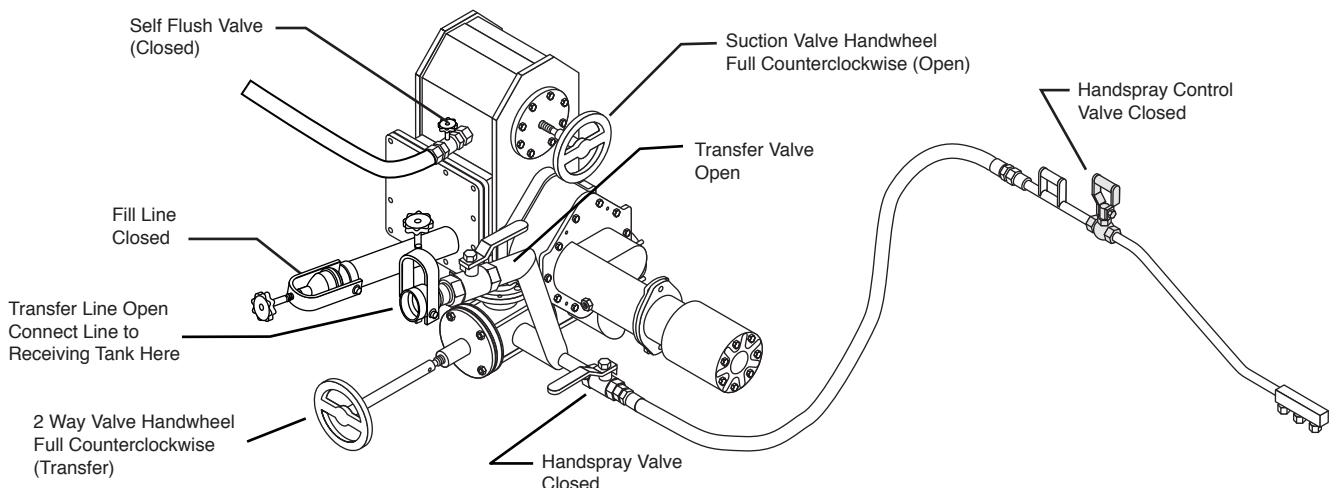

Figure 7. Valve Positions for Pumpoff
6. Set all of the valve positions (see Figure 7).